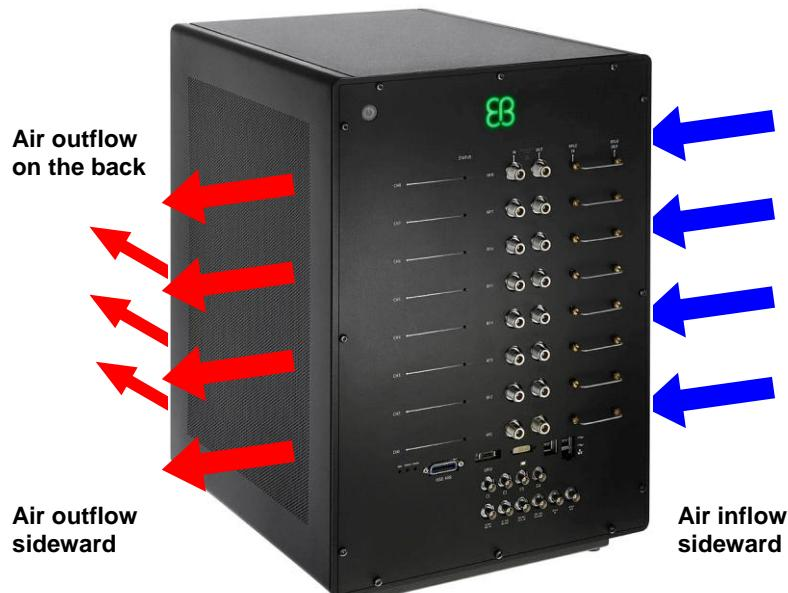

Figure 15. Air inflow and outflow on sides and back of the emulator
- During the use free, unrestricted air flow must be allowed around the device to ensure proper cooling. Figure 15 below depicts the air inflow and outflow vents on the sides and back of the emulator.